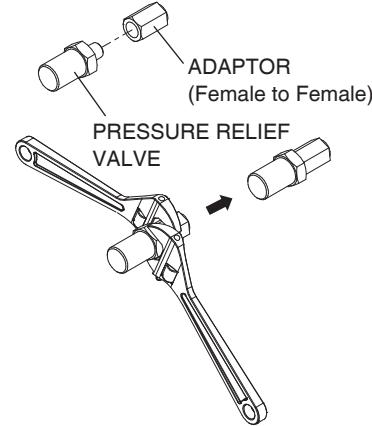

Figure 1
- Install the pressure relief valve (0151V00000) on the adaptor (0151V00003) (1/4 NPTF Female side). Use heat resistant sealant (field supplied) to ensure proper sealing. (Figure 1)